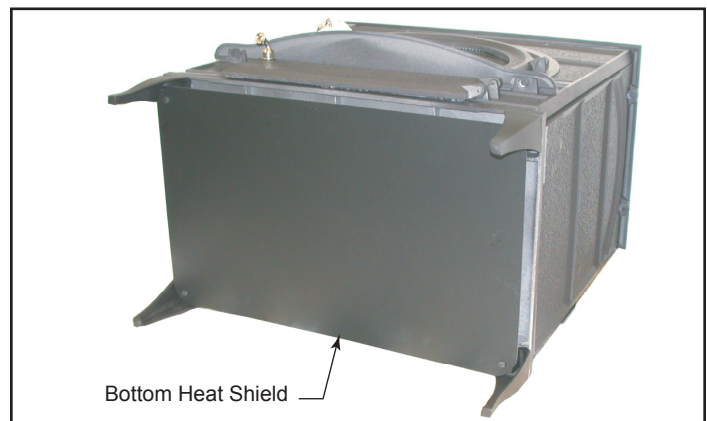

**Figure 19** - To attach the legs, remove the bolts from the stove bottom and reassemble with the handle holder, heat shield brackets (if necessary) and washers.
2. The tops of the legs are slotted. Remove each leg bolt from the bottom of the stove and then replace it with a heat shield bracket and a washer. Place the door handle insert holder on the bolt for the left rear or either front leg. (Figure 19)